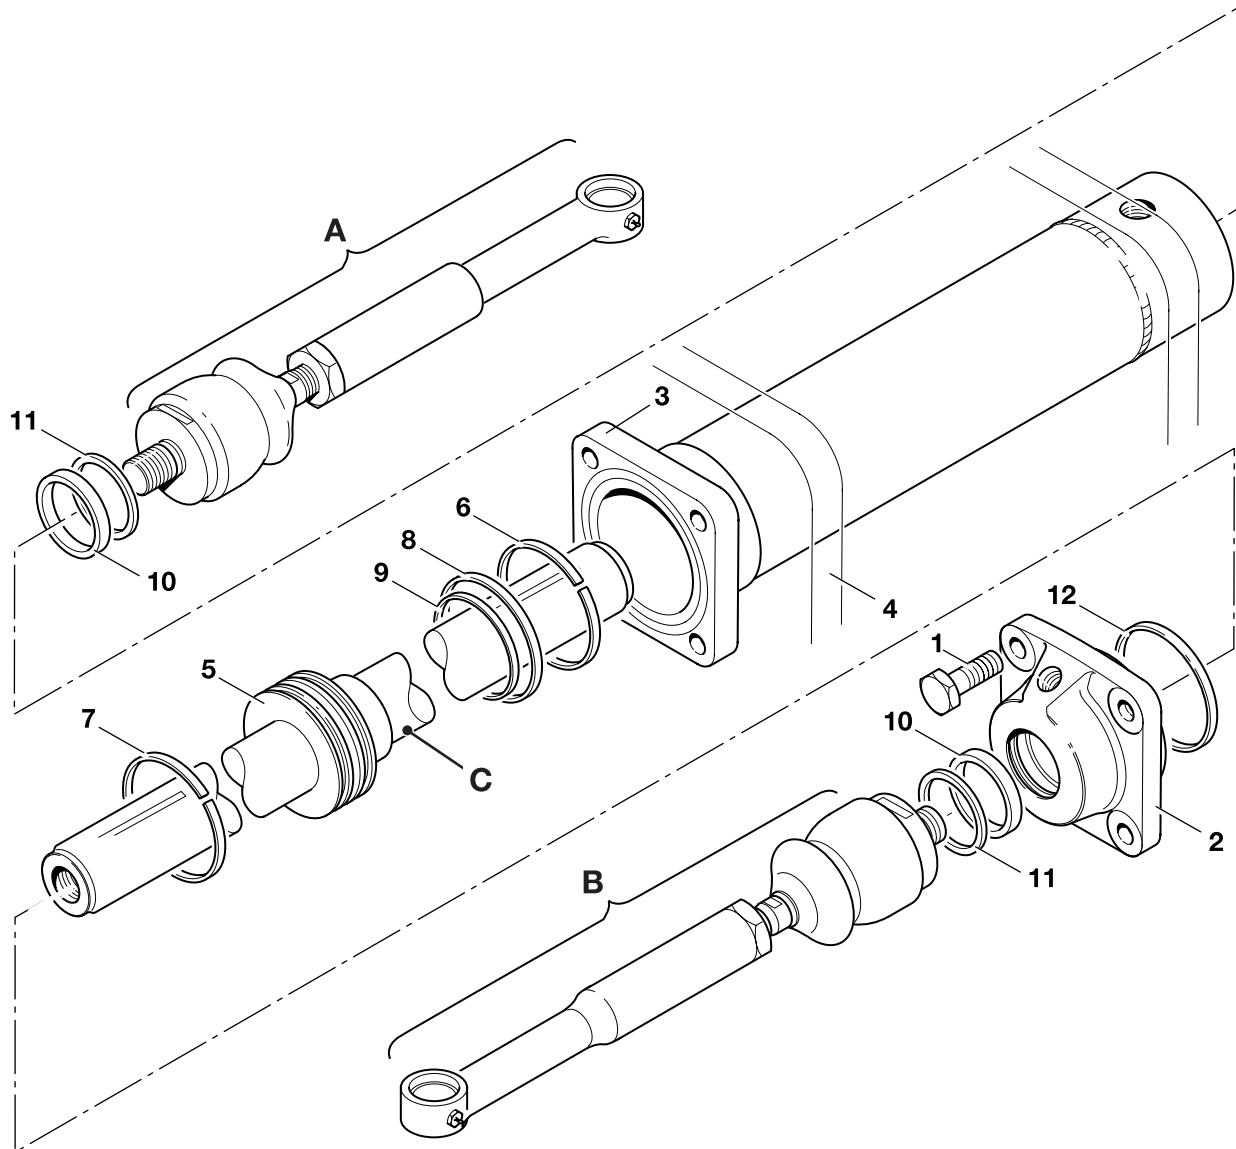

Fig 7. Dismantle and Assemble
⇒ Fig 7. \(□ H6-8\)
- 2 If not already done, remove the two steering link arms **A** and **B**. ⇒ Fig 7. \(□ H6-8\) ⇒ Removal and Replacement \(□ H6-3\)